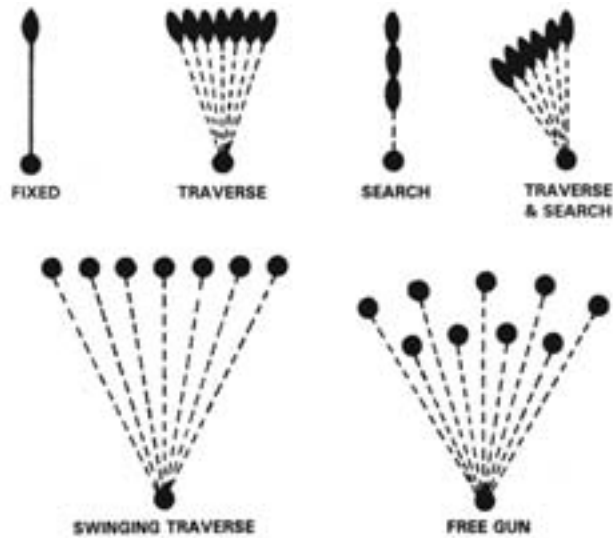
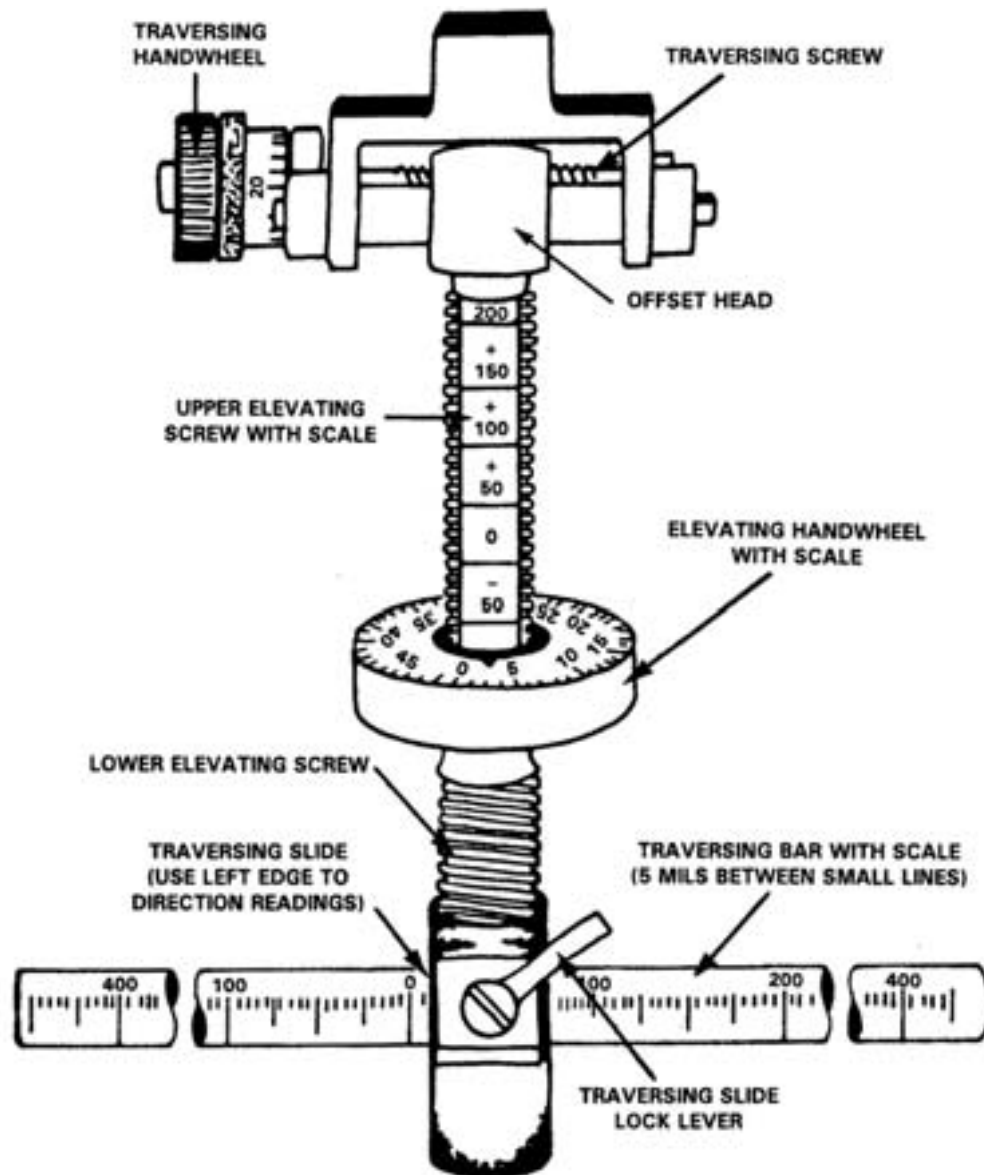

Figure 6-10. Classes of Fire With Respect to the Gun.
Figure 6-12. Traversing Bar and T&E Mechanism (T&E Reading of L5-50/3).
- a. **Fixed Fire.** Fire delivered on a point target. Little or no manipulation is required. After the initial burst the gunner will follow any change or movement of the target without command. See figure 6-10.
- b. **Traversing Fire.** Fire distributed against a wide target requiring successive changes in the direction of the gun. When engaging a wide target requiring traversing fire, the gunner should select successive aiming points throughout the target area. These aiming points should be close enough together to ensure adequate target coverage, but not so close as to be wasteful of ammunition by concentrating a heavy volume of fire in a small area. See figure 6-10.
- c. **Searching Fire.** Fire distributed in depth by successive changes in the elevation of the gun. The amount of elevation change depends upon the range and slope of the ground. See figure 6-10.
- d. **Traversing and Searching Fire.** Fire delivered both in width and depth by changes in direction and elevation. It is employed against a target whose long axis is oblique to the direction of the fire. See figure 6-10.
- e. **Swinging Traverse.** Employed against targets which require major changes in direction but little or no change in elevation. Targets may be dense, of considerable width, in relatively close formations moving slowly toward or away from the gun, or vehicles or mounted troops moving across the front. The traversing slide lock lever is loosened enough to permit the gunner to swing the gun laterally. See figure 6-10.
mary sector of fire with the exception of the FPL. The FPL needs no direction reading since the traversing slide is positioned to the extreme right or left of the traversing bar. To obtain direction readings to targets other than the FPL, loosen the traversing slide lock lever and slide the traversing bar slide along the traversing bar until the gun is laid on the center of a point target and on either flank of a linear target. Lock the traversing bar and read the direction reading from the scale on the traversing bar (see figure 6-12). If the left edge of the traversing slide does not fall exactly on a 5-mil graduation (tick-mark), move the left edge of the traversing bar slide back to the next smaller graduation, and use the traversing hand wheel to complete the initial lay. This technique will keep the muzzle of the gun moving in the same direction when laying on a target.
The elevation reading is obtained from two scales. The first portion of the reading is taken from the engraved scale on the upper elevating screw plate. The second portion is taken from the engraved scale on the top of the elevating hand wheel, using the indicator as the index (see figure 6-12). The two portions of the elevation reading are separated by a slash (/) when they are recorded.
The engraved scale on the upper elevating screw plate is graduated in 50-mil increments from -200 mils to +200 mils. There is an index line below each number and a PLUS or MINUS sign above each number, with the exception of the 0 (see figure 6-12). The zero reading has no sign. In obtaining the elevation reading, the gunner should lower his head until his eyes are on line with the top of the elevating hand wheel. The first portion of the reading is the number and plus or minus sign above the first visible index line. As in figure 6-10, this would be a -50 reading. The scale on the elevating hand wheel is graduated in 1-mil increments for a total of 50 mils. Locate the graduation on line with the indicator (see figure 6-10). The entire reading is recorded as -50/3.
An elevation reading is valid on only one mechanism. If data are placed on another mechanism using the same mount and gun, the data could be inaccurate. The number of threads exposed on the lower elevation screw must remain the same both when obtaining and using data (see figure 6-12). If the number of threads is increased or decreased after the data are recorded, accurate fire cannot be placed on the target. For example, when a gun is freed to engage a secondary sector, should the base of the T&E mechanism rotate, the data are only correct if the gunner ensures that the same number of exposed threads is replaced on the mechanism. To replace the elevation reading of -50/3 on the T&E mechanism, manipulate the elevating hand wheel until the horizontal line below -50 is visible at eye level, with the hand wheel indicator on 3.